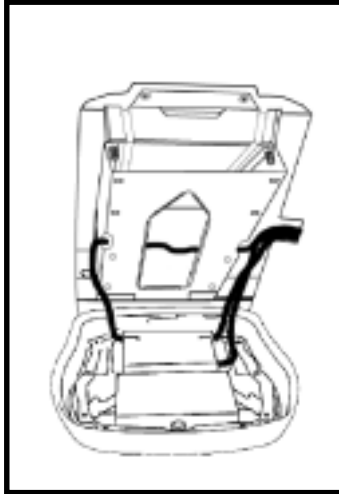

FIGURE 42
1. CONNECT THE TWO DVD MAIN HARNESS CONNECTORS AND THE DOME LIGHT CONNECTOR TO THE DVD ASSEMBLY. (SEE FIGURE 42)